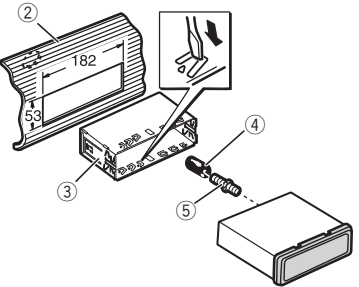

Fig. 3
3. **Install the unit as illustrated. (Fig. 3)**
- ② Dashboard
- ③ Mounting sleeve
- ④ Rubber bush
- ⑤ Screw